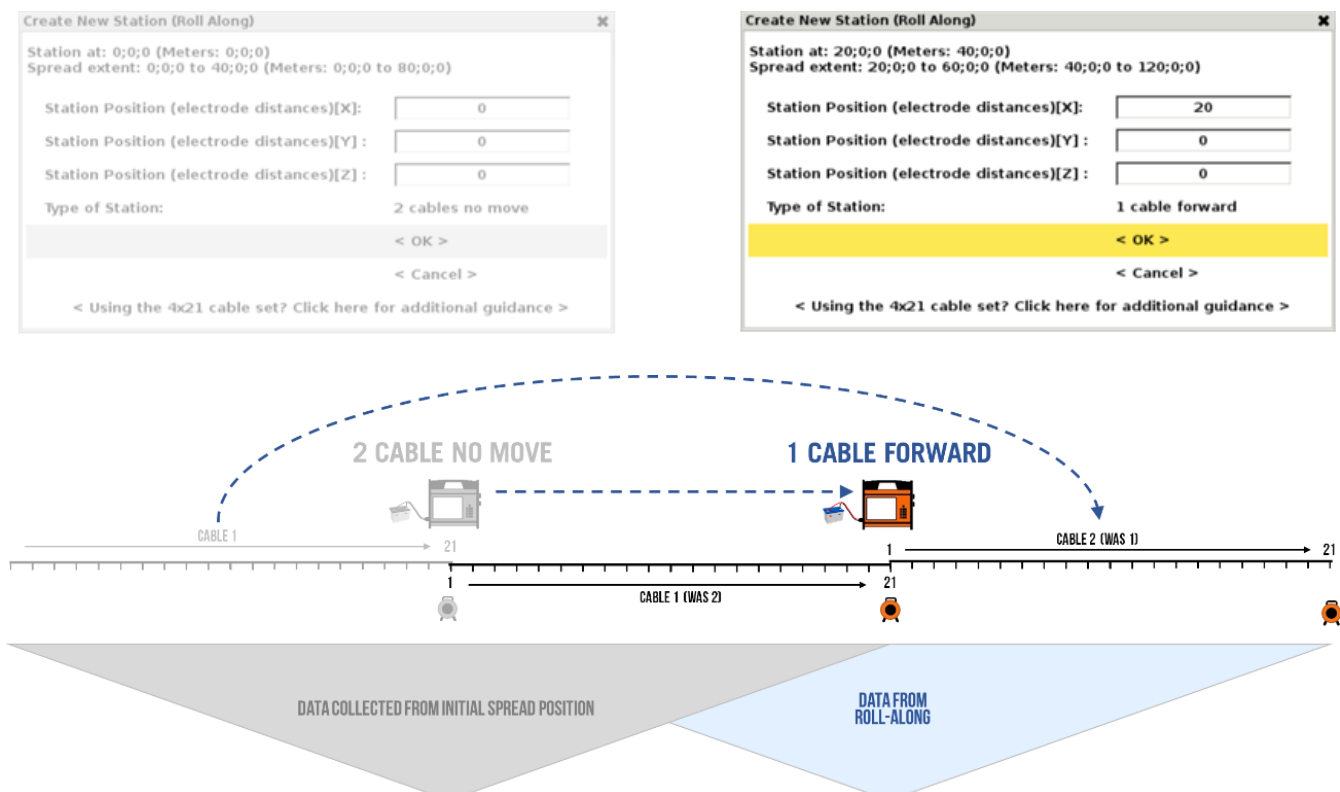

Figure 118 Roll-along on 2x21 cable set
- At this stage it is possible to ‘roll-along’ by returning to the “Create New Station” window and accepting the “1 cable forward” option. On the ground, Cable 1 and all its electrodes should be moved to the far end of Cable 2, and the instrument repositioned in the middle of the new cable spread position (Figure 118 Roll-along on 2x21 cable set).